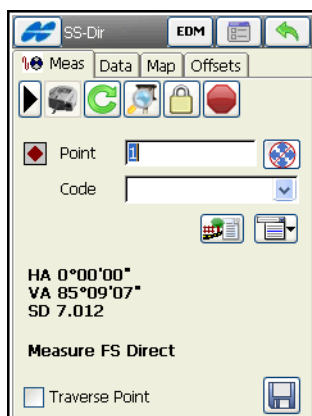

Figure 11-6. Sideshot-Direct – Robotic
- For a Robotic survey, the icon  toggles between the status bar and the tools bar (see Figure 11-6 on page 11-6).